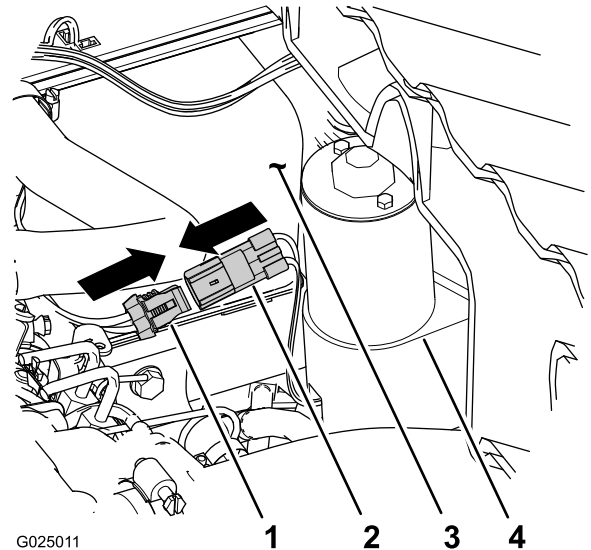

Figure 10
3. Connect the 2-socket electrical connector of the rear wire harness of the machine to the 2-pin connector of the lift actuator (Figure 10).